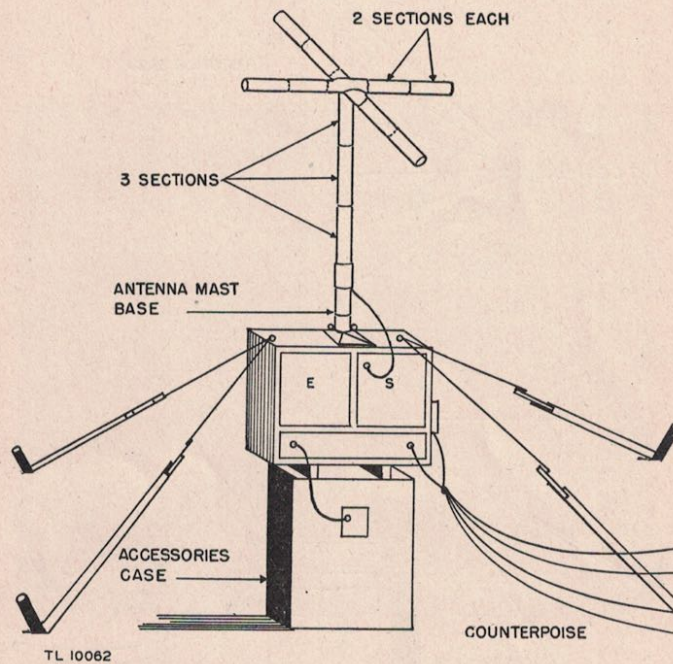
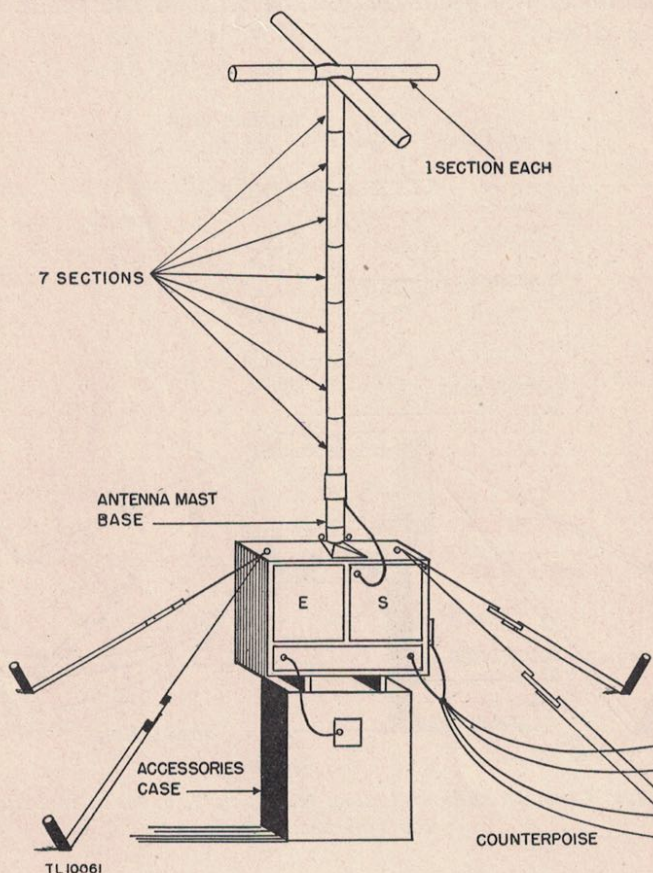

Figure 2. The German radio set, Torn. Fu. b1. or Torn. Fu. f., installed, using low-rod antenna.
Figure 3. The German radio set, Torn. Fu. b1. or Torn. Fu. f., installed, using high-rod antenna.
e. **General set installation.** (1) Set up the equipment as shown in figure 2 or figure 3, depending on whether the low- or high-rod antenna is to be used. The high-rod antenna will give a longer range than the low-rod antenna. If the rod antennas are not available, attach one end of a wire about 45 feet long to a tree, being sure to keep it insulated from the tree and not touching surrounding objects. Connect the other end of the wire to the set in the **Ant.** (antenna) jack.
- (2) The low-rod antenna is made up of a vertical portion of three antenna sections and a top portion of eight antenna sections (fig. 2).
- (3) The high-rod antenna is made up of a vertical portion of seven antenna sections and a top portion of four antenna sections (fig. 3).
- (4) The battery plug is connected to the five-contact plug on the lower left of the set. Do not force this plug as it will only plug in one way.
- (5) Plug the microphone, either the throat or hand type, into the jack marked **Mikrofon** (microphone). Any single-button carbon microphone equipped to plug into the jack will work satisfactorily.
(6) Plug the telegraph key into the jack marked **Taste** (key). Any telegraph key will work.
(7) Plug the headset into any of the jacks marked **Fernhörer** (headphones). Any high impedance headset is satisfactory.